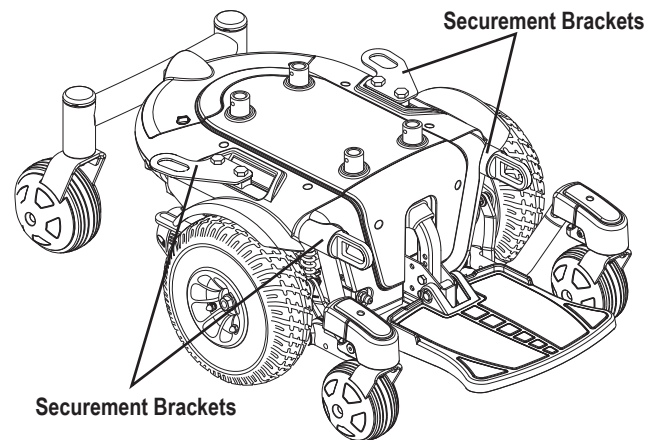

Figure 10. Transit System Securement Brackets
- Attach the four (4) tie-down straps to only designated, labeled transit securement points indicated by anchor symbols on the power chair. **See figures 10 and 11.** Tighten the straps sufficiently to remove all slack.